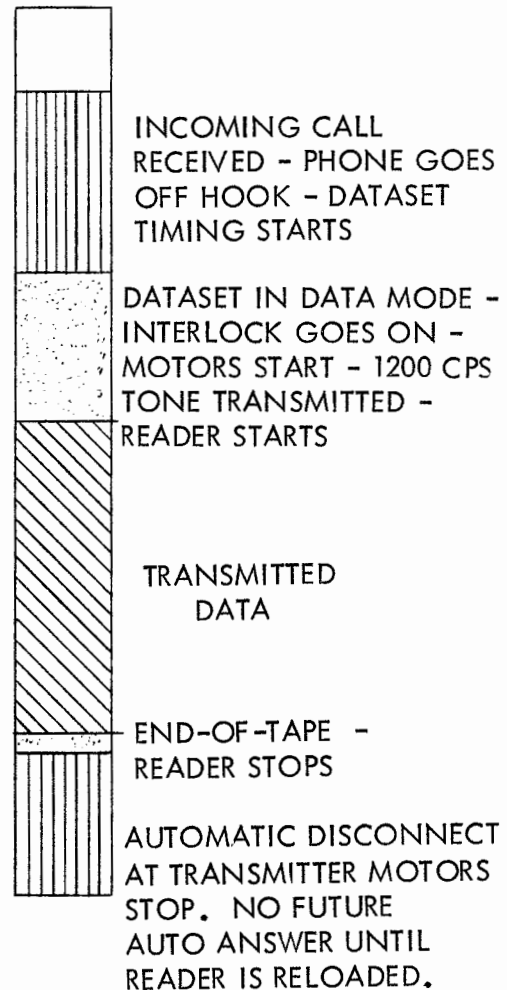

FIGURE 3.
4. THEORY OF OPERATION (FIGURES 3 AND 4)
a. For subsequent circuit description, refer to Figure 3, Operational Timing, and Figure 4, Circuit Logic Diagram.
- (1) Conditions for Automatic Start
- (2) The sequence of events are as follows: